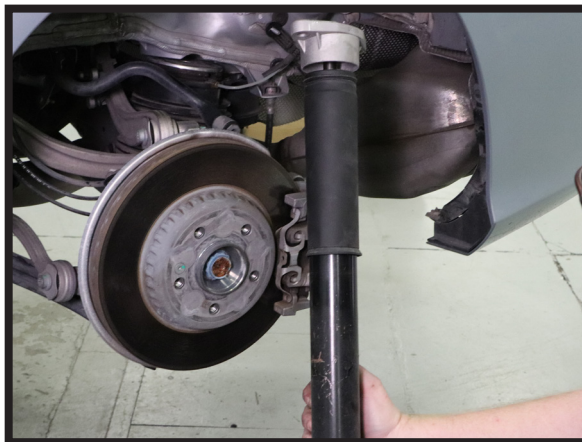

FIGURE 7
5. REMOVE THE SHOCK FROM THE VEHICLE. (FIGURE 7)